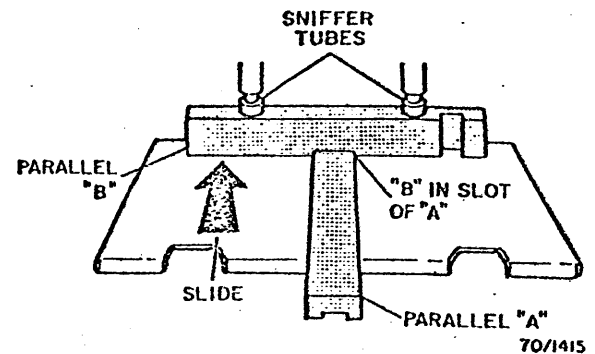

Fig. 3-66. Paper Tray Height
3. Place bar B in slot of bar A and slide the parallel bars under the sniffers (Fig. 3-66). Clearance between the sniffer tubes and parallel B should not exceed 0.015.
3. Place the parallel bars as in Fig. 3-66 and "jog" the paper tray into the proper position using the toner dipstick to actuate LS14.